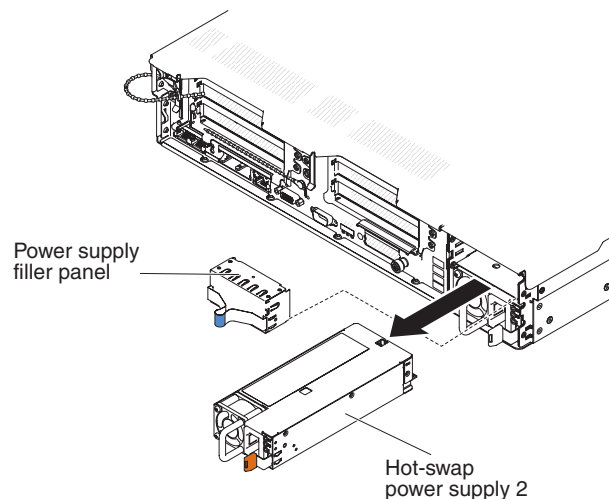

Figure 59. Removing a hot-swap ac power supply
4. Grasp the power-supply handle. Refer to Figure 59.